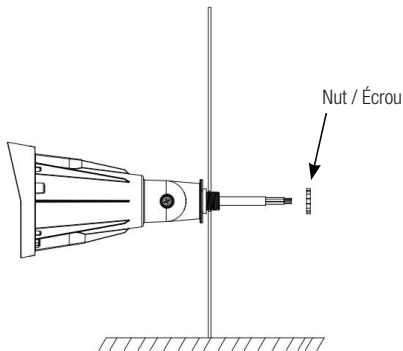
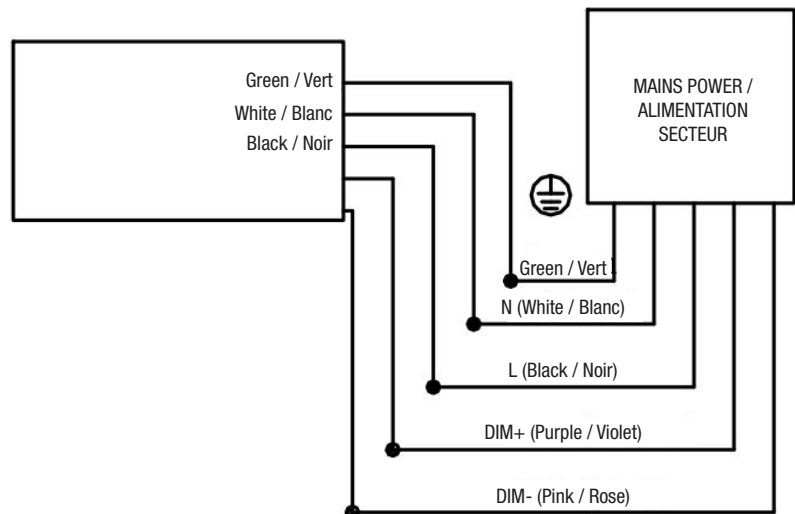

Fig. 6
Fig. 7
1. Pass through the thin panell and tighten the nut, as shown in Figure 6. Wire it correctly, as shown in Figure 7.